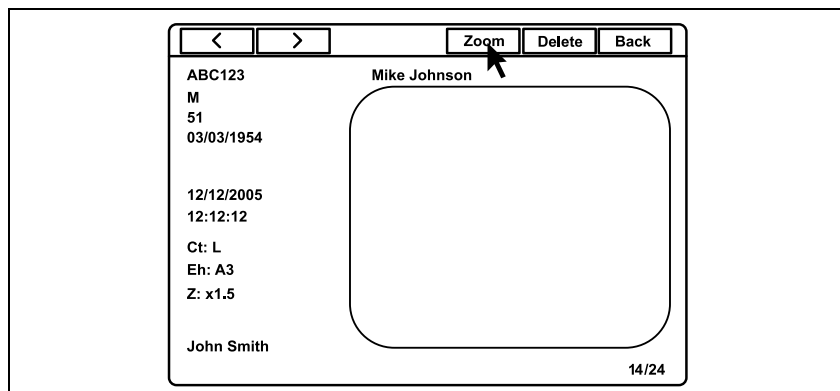

Figure 5.65
3. Click “View” or press the “Enter” key. The message “Please wait” is displayed on the monitor, then the normal screen image selected appears (see Figure 5.65).
- In the normal screen, all images recorded in the full-height or full size are scaled down and displayed on the constant display area are shown in Figure 5.65.